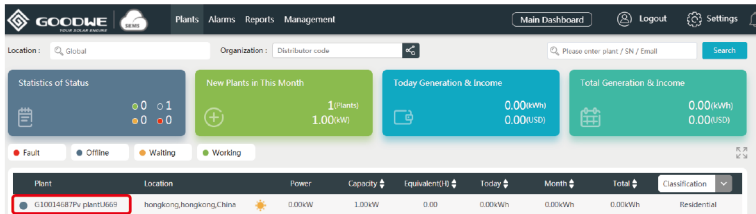

Figure 6.2-1 Check the PV Plant
Step 2 : Click the plant name as figure 6.2-1 below.